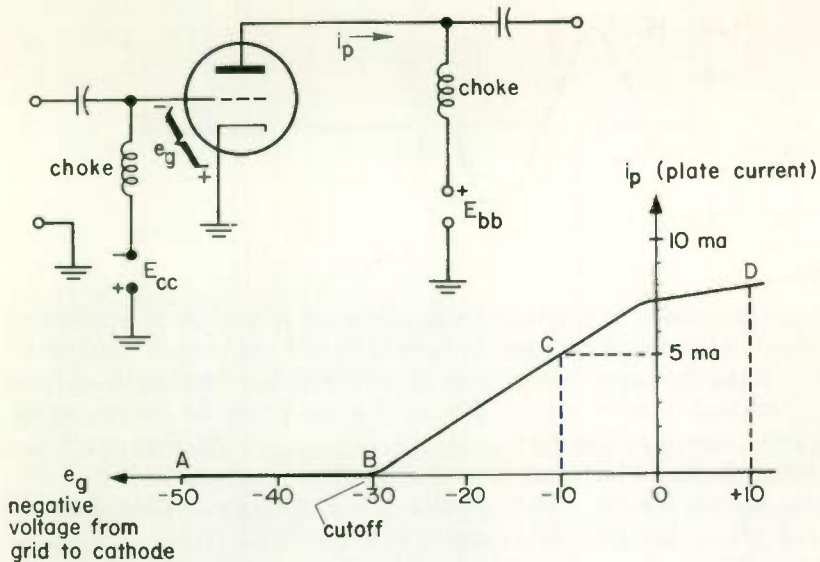

Fig. 25 The grid-voltage plate-current curve.
The curve of Fig. 25 shows how the voltage from grid to cathode affects the plate current of a vacuum-tube amplifier. This curve shows the readings of a milliammeter in the plate circuit plotted against the readings of a meter connected between the grid and cathode of the tube. When the voltage e_g from grid to cathode has a very large negative value of, say -50 volts, we are at point *A* of the curve. At this point the grid of the tube is so negative that it repels all the electrons emitted by the cathode, and no plate current whatsoever flows through the tube.
- Using the curve of Fig. 25, answer the following questions: